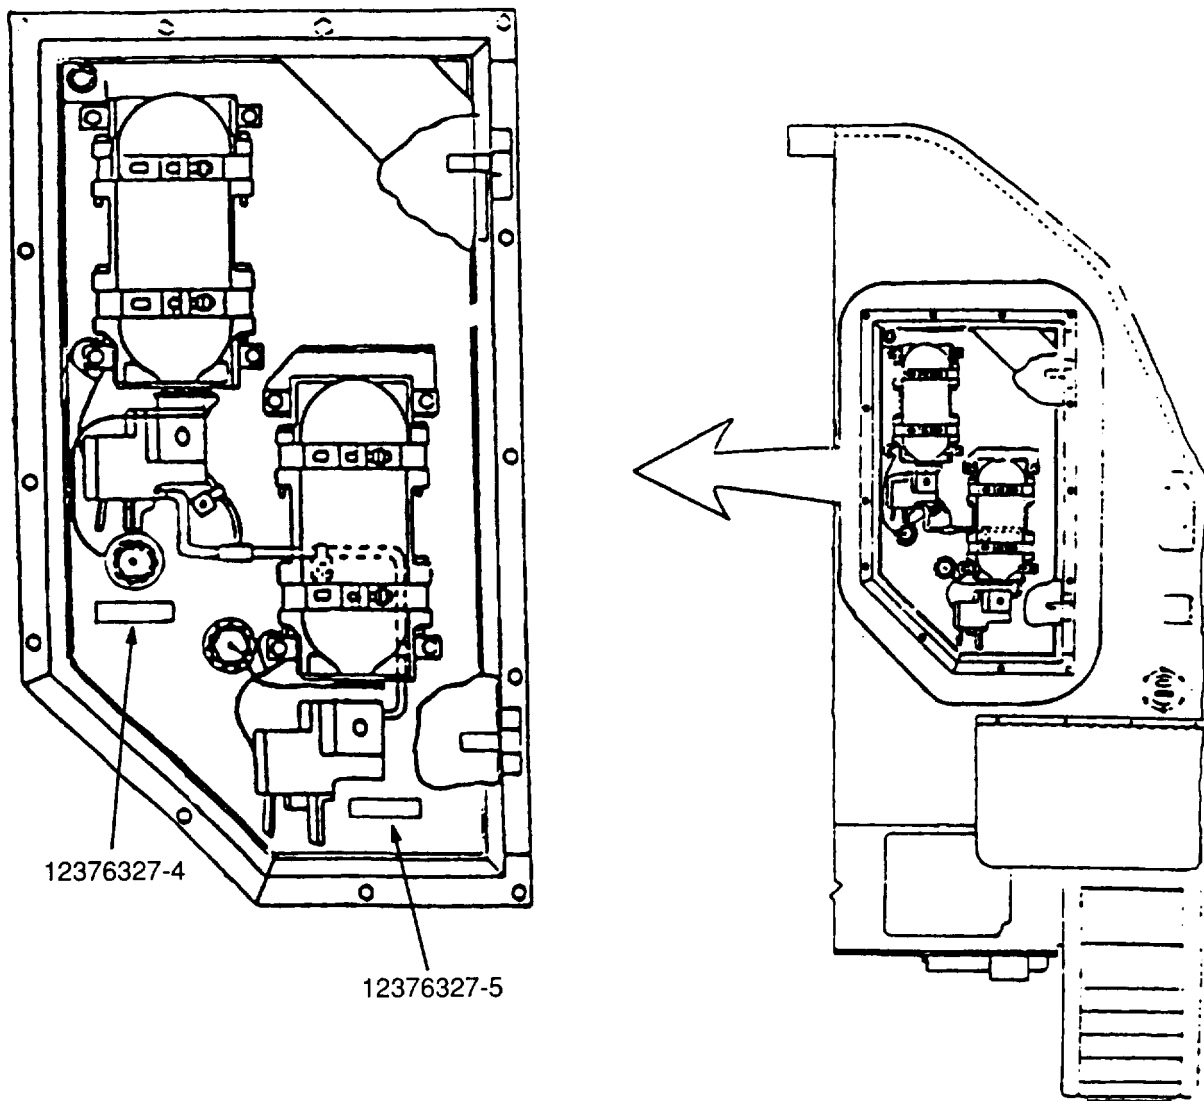

Figure 5
18. Remove the protective backing from labels 12376327-4* and 12376327-5* and position as shown in Figure 5.